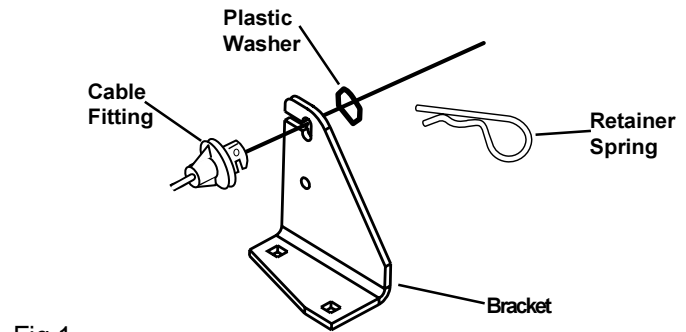
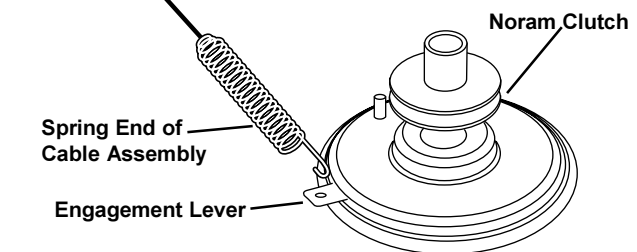
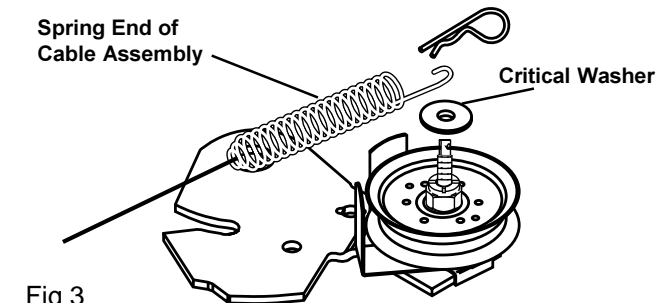

Fig 1
Fig 2
Fig 3
- Remove retainer spring securing cable at rear of deck or under the frame. See Fig. 1. Slide plastic washer forward and remove cable fitting in bracket.
- On CRD mower remove spring from NORAM Clutch. See Fig. 2.
- On side discharge mowers, remove retainer spring securing cable spring to idler pulley bolt and remove spring. See Fig. 3.
- Pull the free end of the cable into place from underneath the tractor. On tractors with the engagement on deck (see Fig .3), find the second hole forward of the brake assembly on the right edge of the frame. Use a plastic tie to hold the cable to this hole Fig 5.
- Install the cable end as shown in either Fig. 2 or Fig. 3, and the cable conduit to the bracket as in Fig 1.